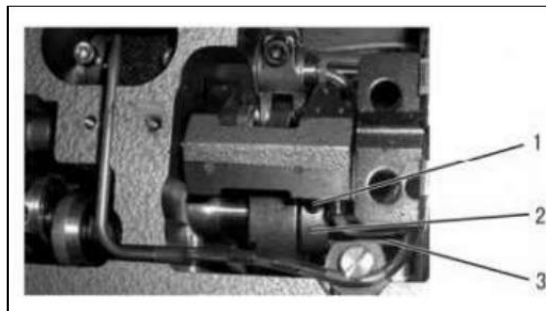
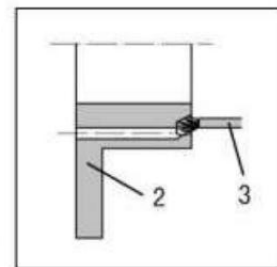

Figure 24
Figure 26
- (2) Loosen the two cam screws 1 on alternating amount adjustment cam 2 (see Figure 24).
(3) Rotate the handwheel so the needle points downward to the top surface of the feed dog.
(4) Rotate alternating amount adjustment cam 2 so the inner presser foot rests against the feed dog (see Figure 26).
Note: As shown in Figure 24, when rotating alternating amount adjustment cam 2, cam 2 must not move axially. Oil is supplied through the hole in cam 2, so oil pipe 3 with oil wick must be inserted into the cam lubrication groove (see Figure 26).